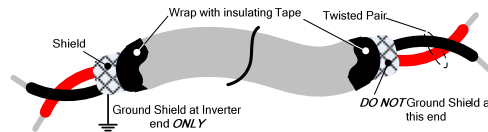

Fig. 4.2.1 Shielded Twisted-Pair
- Separate the wiring for control circuit terminals RA-RB-RC (R1A-R2B-R2C) (Relay outputs) from wiring for terminals ① - ③, A01, A02, GND, DO1, DO2, DOG **24V** (or +12V, -12V), VIN, AIN, AUX, GND, IP12, IG12, A (+), A (-), S (+) and S (-).
- Use shielded twisted-pair cables (#24 - #14 AWG / 0.5 -2 mm2) shown in Fig. 4.2.1 for control circuits to minimize noise problems. The maximum wiring distance should not exceed 165 Ft. (50 m).